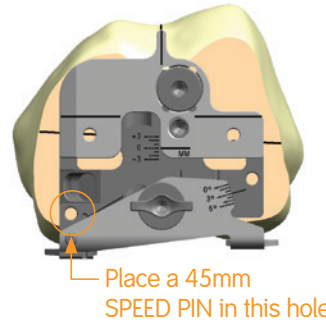

Figure 22
- Place the (left or right) JOURNEY[®] II DCF Sizing Guide on the resected distal femur. With the medial paddle contacting the posterior medial condyle and the sizing guide flush to the distal resection, place a 45mm headed SPEED PIN[®] through the hole just above the medial paddle (Figure 22). This will secure the sizing guide for the remainder of its use.